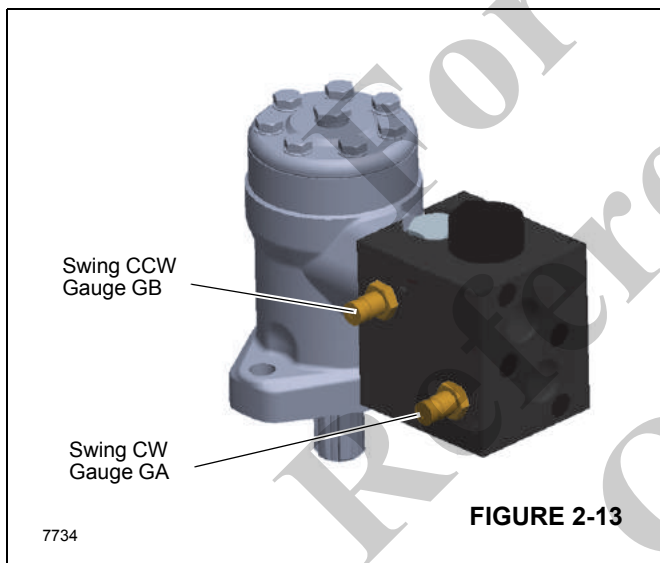

FIGURE 2-13
- a. Install a 345 bar (5000 psi) minimum gauge in the GA or GB gauge port on the hydraulic motor manifold (Figure 2-13).